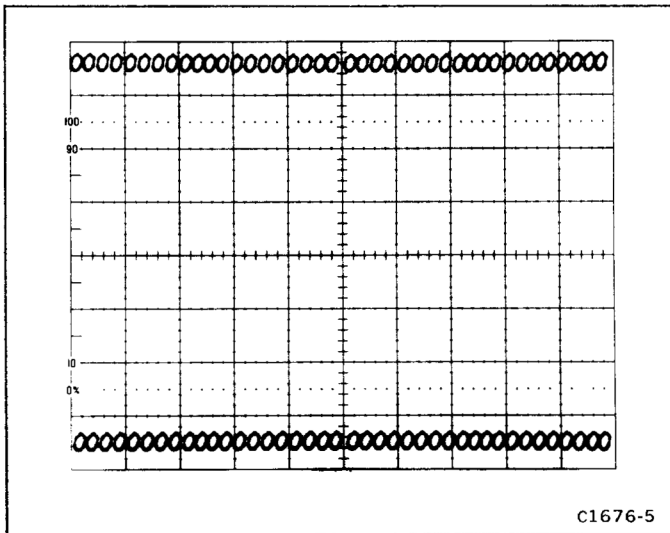

Figure 5-4. Readout display with Q2225 removed.
- EXAMINE**—the crt display for two rows of zeros, 40 zeros to a row with no character overlap. The two rows of zeros should be located vertically in the middle of the top and bottom divisions of the graticule (see Fig. 5-4).
- e. **EXAMINE**—the crt display for two rows of zeros, 40 zeros to a row. The two rows of zeros should be located vertically in the middle of the top and bottom divisions of the graticule (see Fig. 5-4).